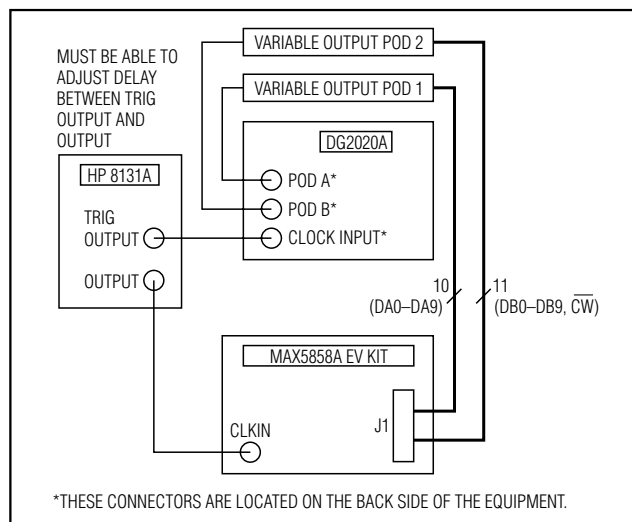

Figure 2. MAX5858A EV Kit Quick Start Setup for PLL Enabled Mode
Do not turn on power supplies or enable signal generators until all connections are completed (Figure 2):
- 8) Connect the TRIG OUTPUT (clock synchronize signal) of the HP 8131A to the clock input on the back side of the data generator (Sony/Tektronix DG2020A). (See Figure 2 for the equipment setup connections.)
- 11) Connect data generator POD A to the first variable output POD (1). Connect output channels CH9 through CH0 of the variable output POD 1 to the MAX5858A EV kit connector J1, as indicated in Table 10.
- 12) Connect data generator POD B to the second variable output POD (2). Connect output channels CH9 through CH0 of the variable output POD 2 to the MAX5858A EV kit connector J1, as indicated in Table 11.